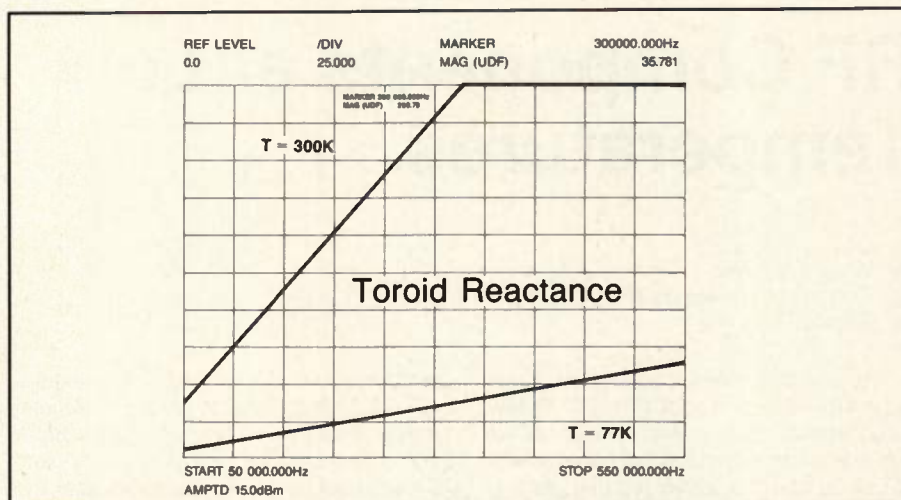

Figure 3. Reactance of ferrite toroid coil versus frequency.
Ferrites are widely used in electronic circuits. The bad news is that they do not work well at low temperatures (19). Their permeability drops drastically as shown by the measurements of Figure 3. The inductive reactance of a ferrite toroid coil decreased from 230 ohms at room temperature down to 35 ohms at 77 K at 300 kHz while the losses increased. The good news is that nickel-iron powdered magnetic materials behave much better. As pointed out by Stevens (19), some of the insulating materials used in magnetics show substantial improvements in dielectric strength if cooled.